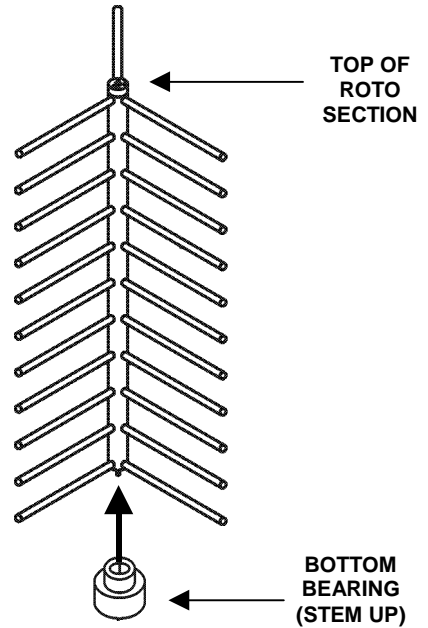

Figure 3.13 - Bottom bearing installation orientation. Pictured above and to the right. Roto section propped upright with foam blocks
27. Locate the Roto sections and the bottom bearings. Seat the stem of the bottom bearing up into the bottom of the Roto shaft. Repeat this process for each Roto section; refer to **Figures 3.13 and 3.14**.